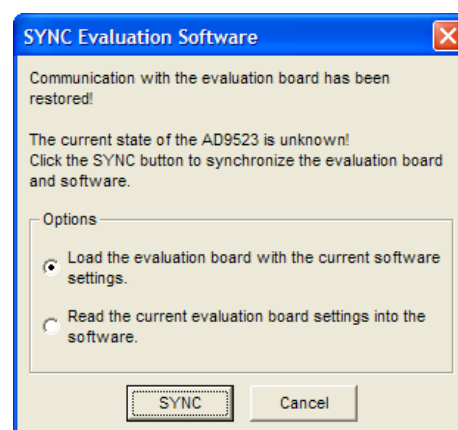

Figure 4. SYNC Evaluation Software Window
5. If you connect the evaluation board while the evaluation board software is running, the window shown in Figure 4 usually appears to prompt you to load the evaluation board with the evaluation board software settings or to read the current evaluation board settings into the software.